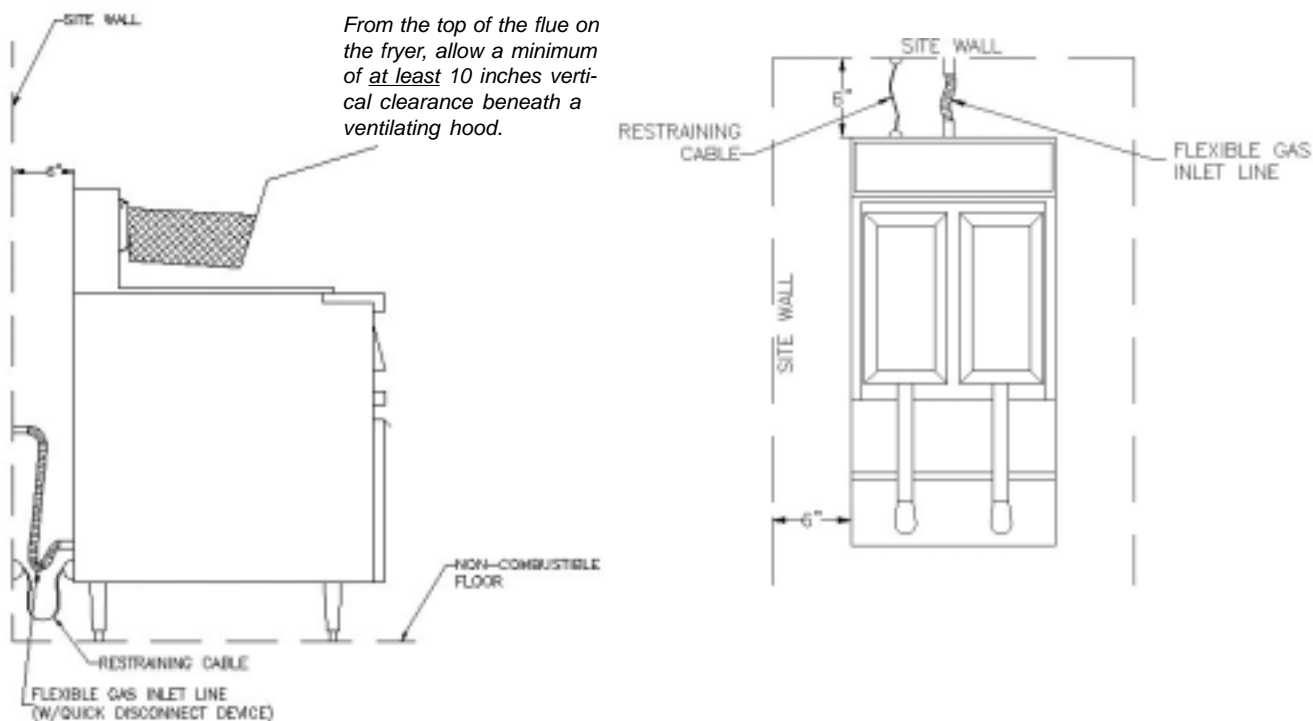

Figure 2. Fryer Site Installation Requirements
- e. Install this fryer on a non-combustible floor with its back and sides at least 6" away from any combustible wall, as shown in Figure 2.
1. Install one restraining device connector into the structure wall directly behind the fryer's desired location, as shown in Figure 2.